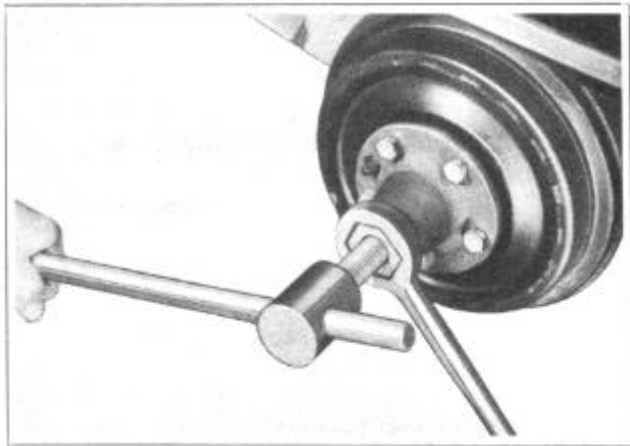

FIGURE 38
5. Remove rear hubs using hub puller 1-736A, Figure 38.